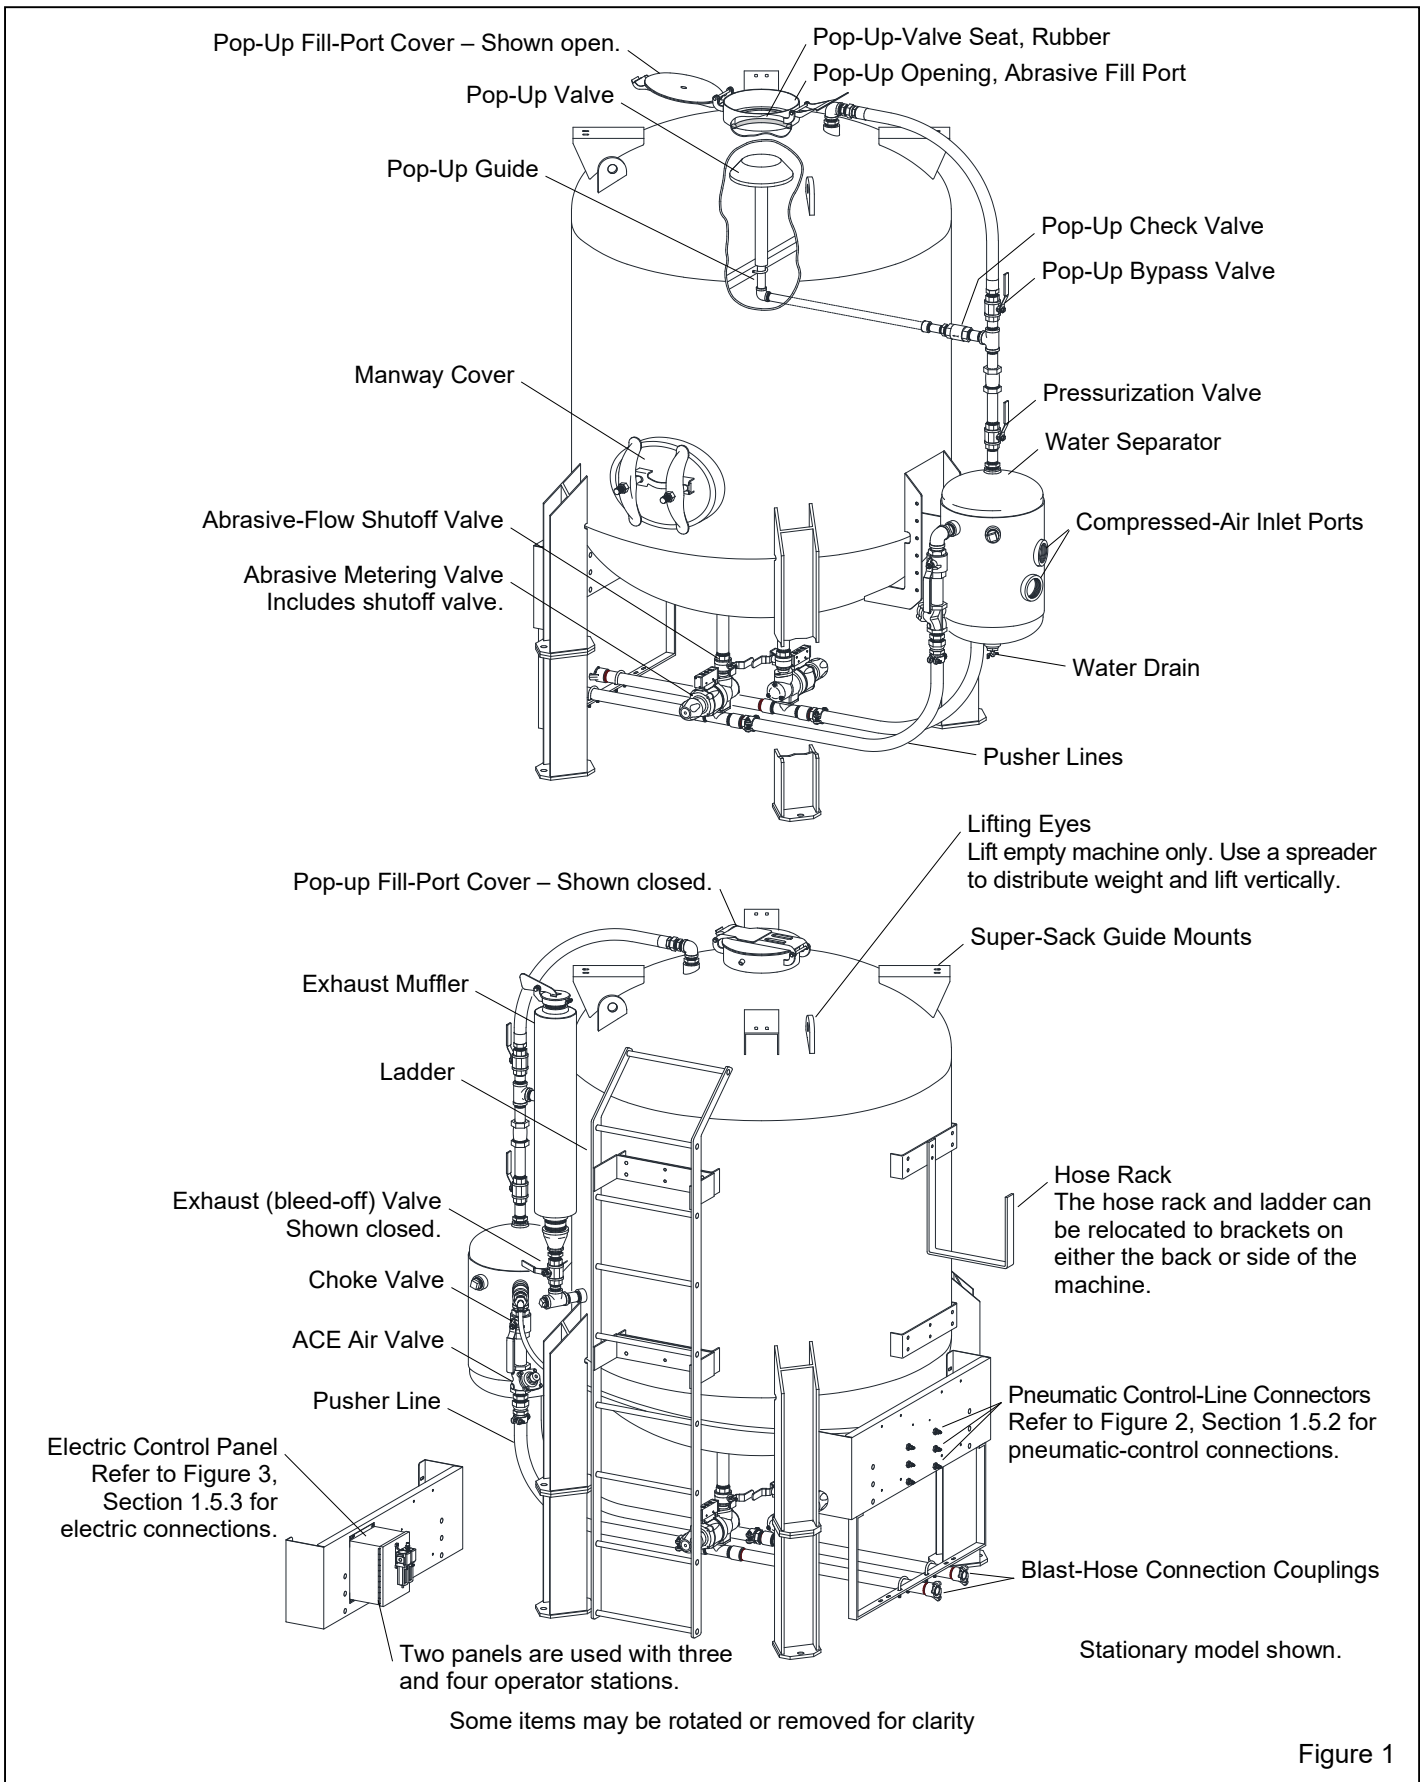

Figure 1
1.4.1.1 Key components for Pro-Series Big Clem Bulk Blast Machines are shown in Figure 1. Bulk blast machines come in three sizes: 60, 120 and 160-cuft capacity. Each size is available in a stationary, yard-towable, and highway-towable models. Highway towable models include fenders, lights and electric brakes. Pneumatic remote controls are shown in Figure 2, and electric remote controls are shown in Figure 3.